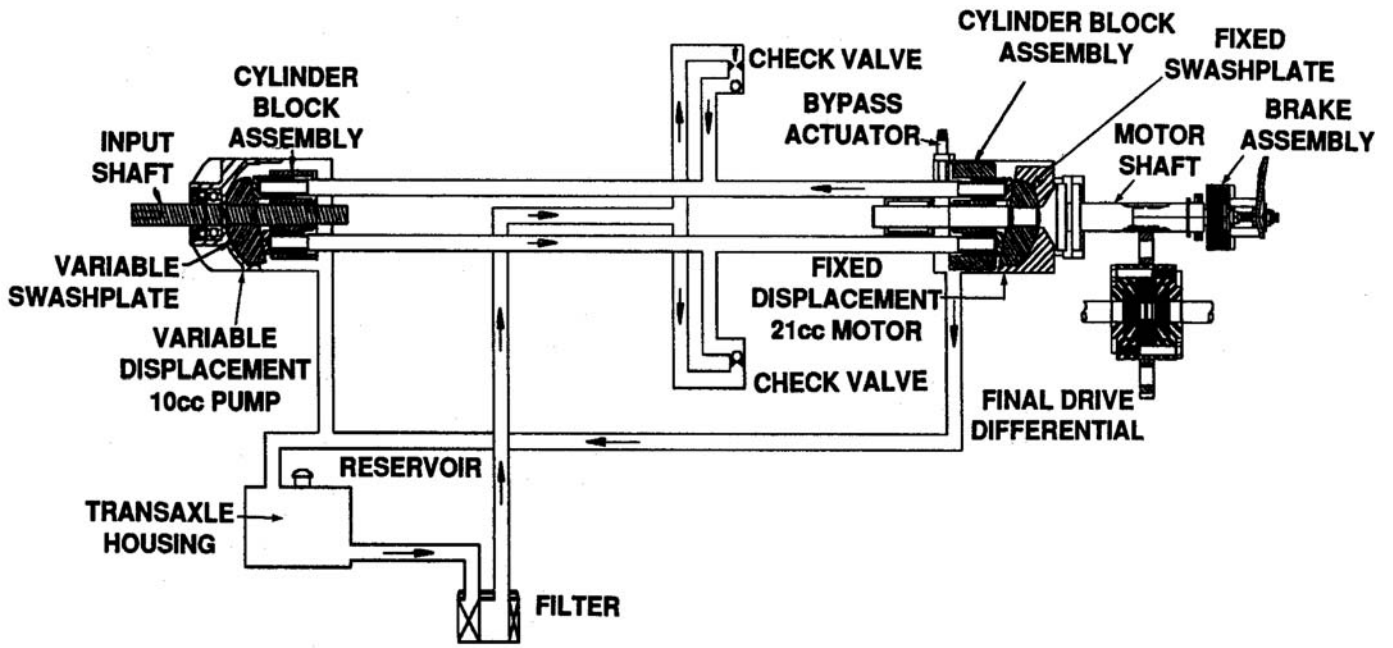

**Figure 6-79.**
23. Place the brake assembly into position and secure with both of the patch bolts removed during disassembly. See Figure 6-79.